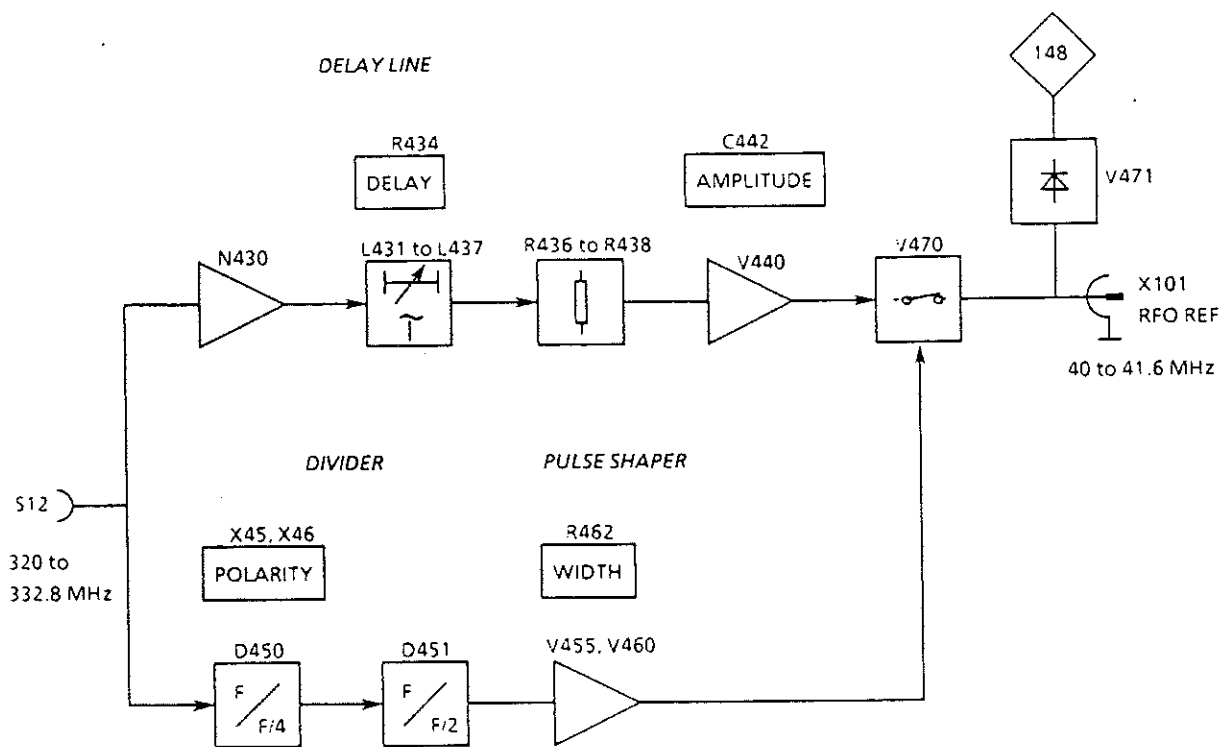

Fig. 5-4 Function diagram of "Pulse blanking divider"
5.1.3 Pulse blanking divider (see Fig. 5-4)
Fig. 5-4 shows that the input signal is connected to the switch (adjustment point DELAY TIME) via a delay line which can be adjusted using varicap diodes. The tuning range corresponds to a phase shift of 180 degrees. Shifting by a total of 360 degrees is possible since the signal from the divider can be inverted using a plug-in jumper (adjustment point POLARITY).